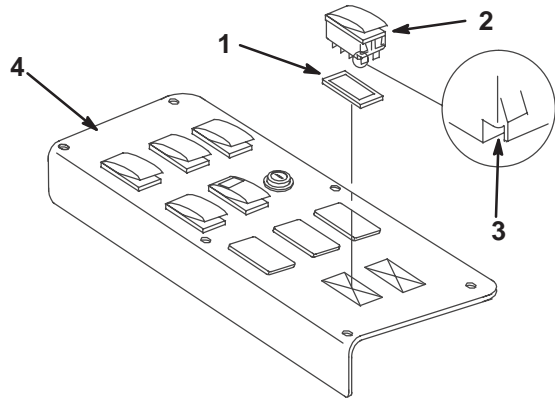
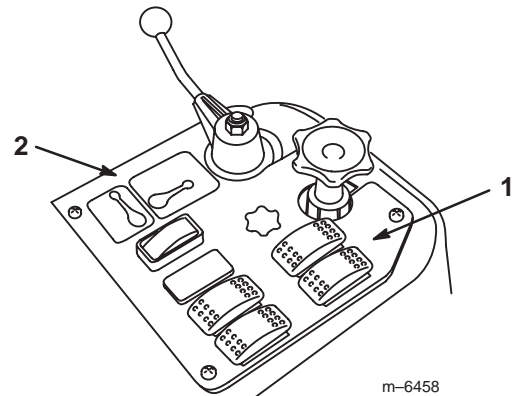

Figure 3
Figure 4
- Remove the spray control panel to expose the bottom side (Fig. 3 for the 1250 and Fig. 4 for the 1200).
- Lift and remove the 2 plugs from the spray control panel on the vehicle and install the 2 rocker switches provided in their place (Fig. 3 for the 1250 and Fig. 4 for the 1200).
Note: Ensure that the orientation of the switches matches what is shown in Figure 3, with the notch pointing toward the rear of the vehicle.